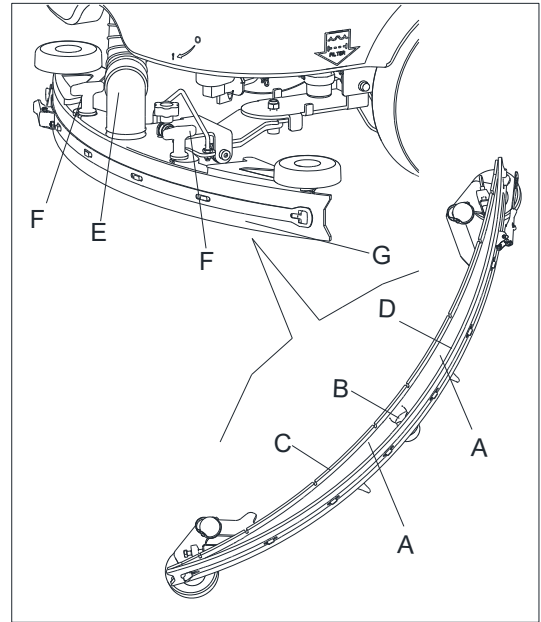

Figure 21
3. Press vacuum system switch (C Figure 21) to release squeegee(G, Figure 21).
4. Loosen the knobs (F Figure 21) and remove the squeegee.
5. Disconnect the vacuum hose (E Figure 21) from the squeegee.
6. Clean the steel or the aluminum squeegee (Figure 21). Clean the compartments (A) and the hole (B) especially. Check the front blade (C) and the rear blade (D) for integrity, cuts and tears; if necessary replace them (see the procedure in the following paragraph).